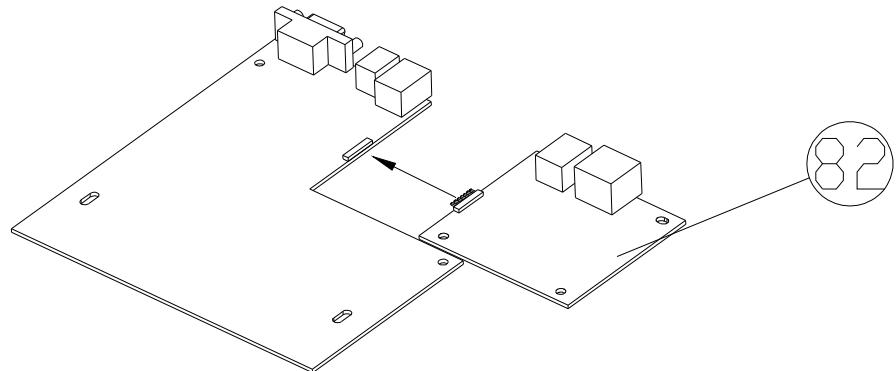

Figure 10.3.4
8. Remove the Ethernet card (82) from the main board, and then insert the new Ethernet card (82) to the main board as shown in Fig. 10.3.4.